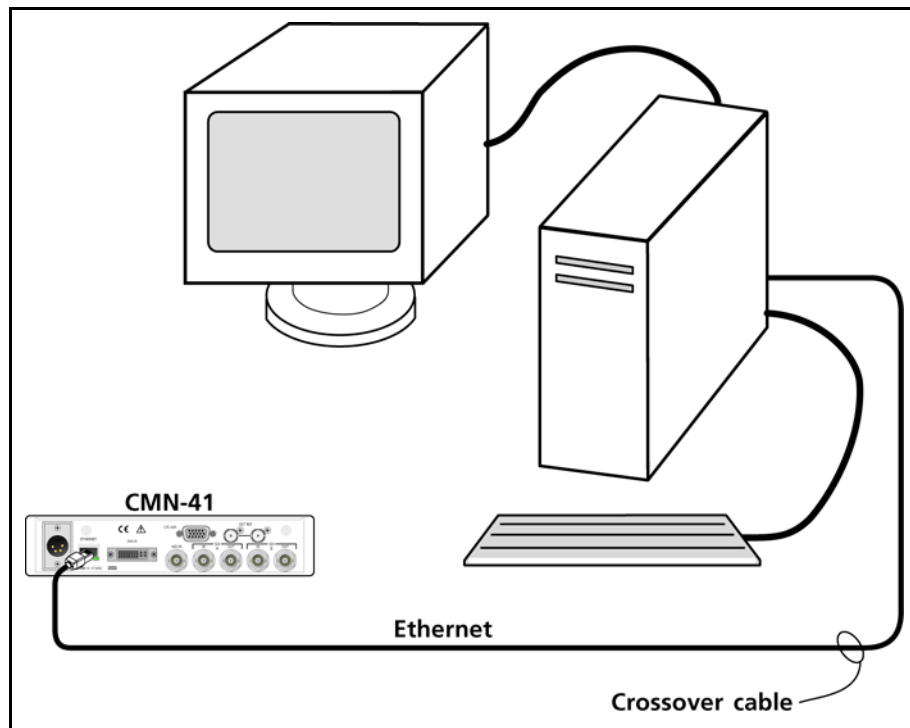

Figure 2-3 CMN-41 Dedicated PC Connection
- For a dedicated PC connection, connect the host PC with a network card to the "ENET" connector on the back panel of the CMN-41, using a CAT5 crossover cable (not included). See Figure 2-3.